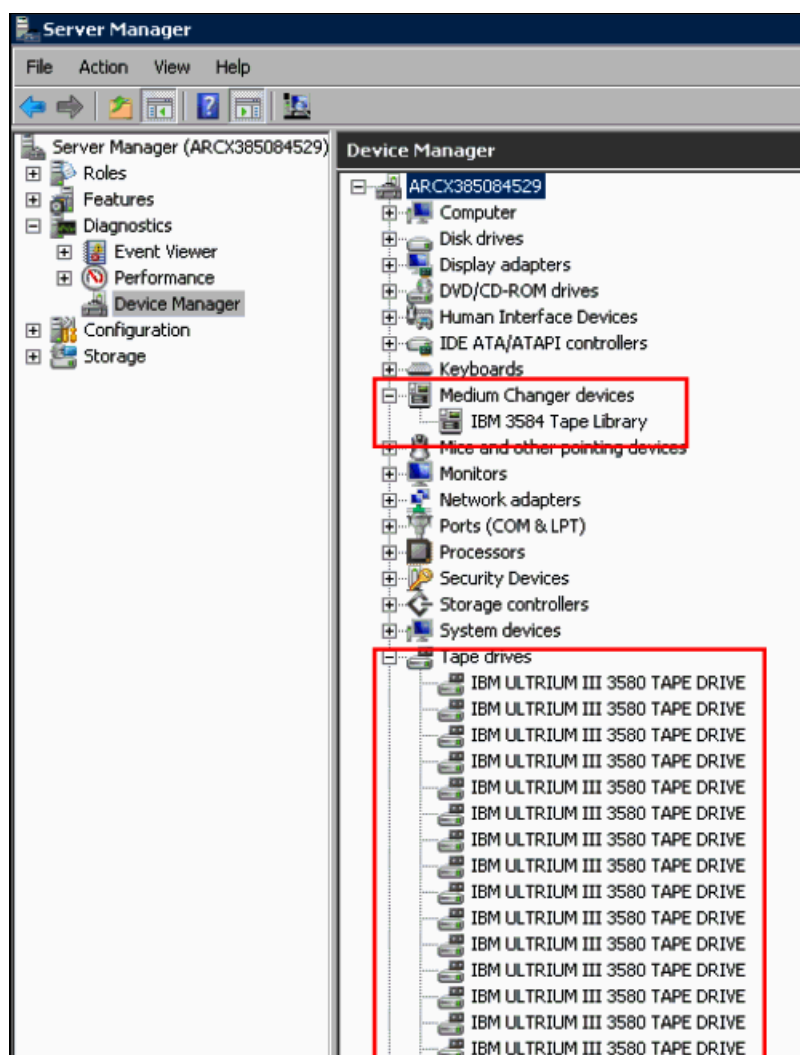

Figure 20-16 Server manager window - showing renamed changer and tape drive
3. After installation is complete, Windows Device Manager shows the tape changer as “IBM 3584 Tape Library”, and the tape drives as “IBM ULTRIUM III 3580 TAPE DRIVE” (Figure 20-16).